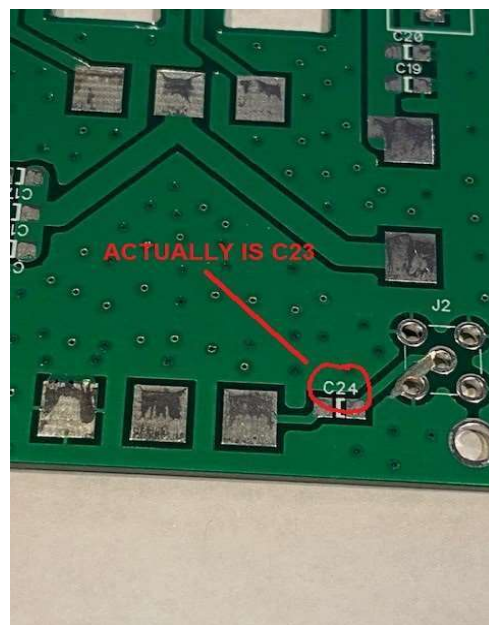

Figure 5. C24 Mislabeled. This Is Actually C23
4. Place all chip capacitors and resistors on the board. Use the schematic placement if there are any issues reading the part legends on the PCB. **NOTE that C23 is mis-marked on V2.3 and earlier PCBs as C24 (see Figure 5).**